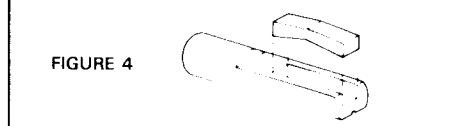
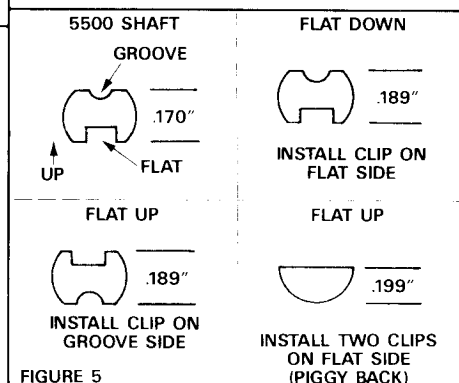

FIGURE 4
FIGURE 5
2. Assemble kit dial per instructions below. Place it or original dial on dial shaft using adaptors as needed. Standard models are supplied with numerous plastic adaptors (see figure 4 for assembly of clip spring adaptor). Commercial models are supplied with metal clip springs (see figure 5).
6. Carefully peel off the backing from the adhesive that is on the back of the SLIP-FIT overlay. Try not to touch the adhesive. See figure 5.